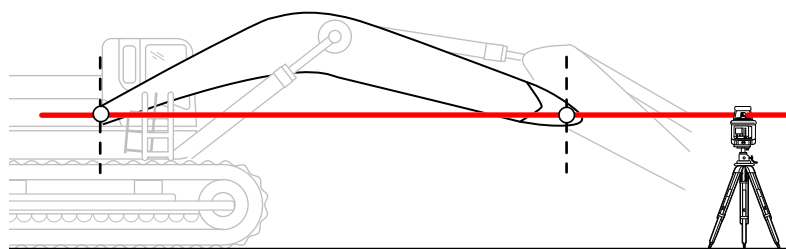

Figure 63: Place Laser to Strike Center of Boom Pivot
5. Adjust the laser height to strike the center of the boom pivot (Figure 63).
6. Move the boom to align the stick pivot with the laser (Figure 63).